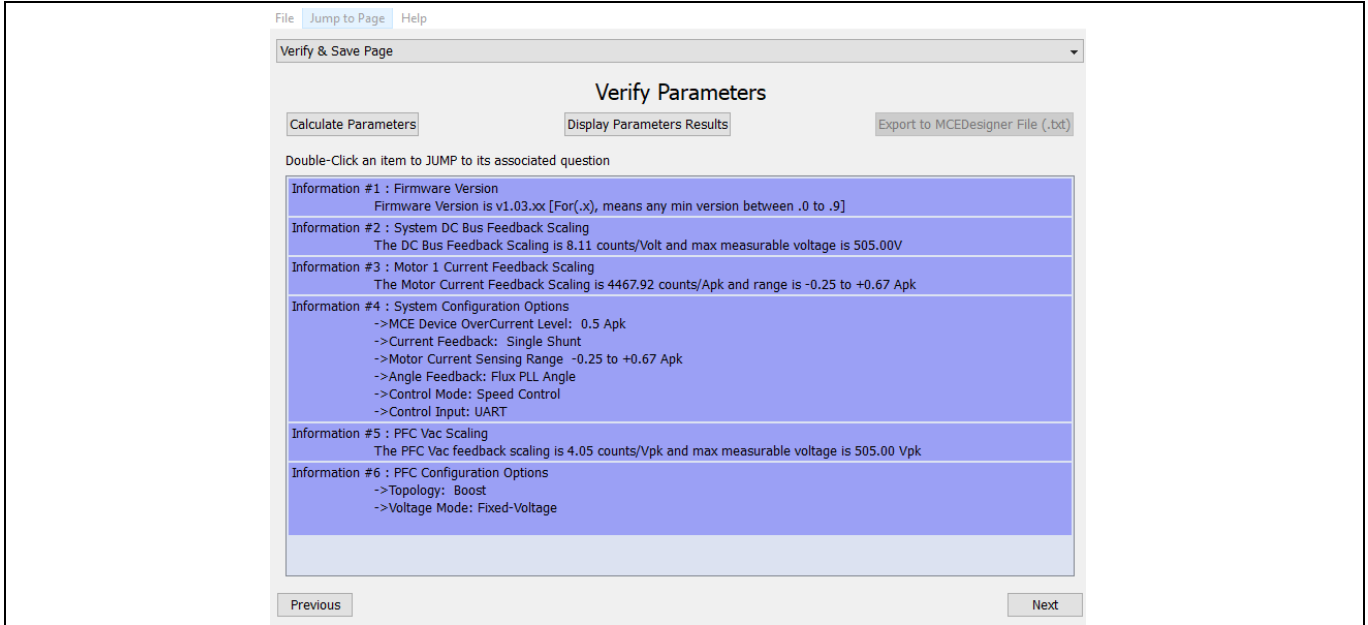

Figure 10 MCEWizard verify and save page (script-disabled)
- After system and operating parameters are set, go to the “Verify & Save Page” and click on the “Calculate Parameters” key to disable script function. If no errors are reported, then save the drive parameter set in your project directory by clicking “Export to Designer file (.txt)” as shown in Figure 10. If errors are detected, double-click on the error message (highlighted in RED) and adjust the related parameters. The saved drive system parameter file will later be used for open-loop diagnostic and closed-loop tuning.